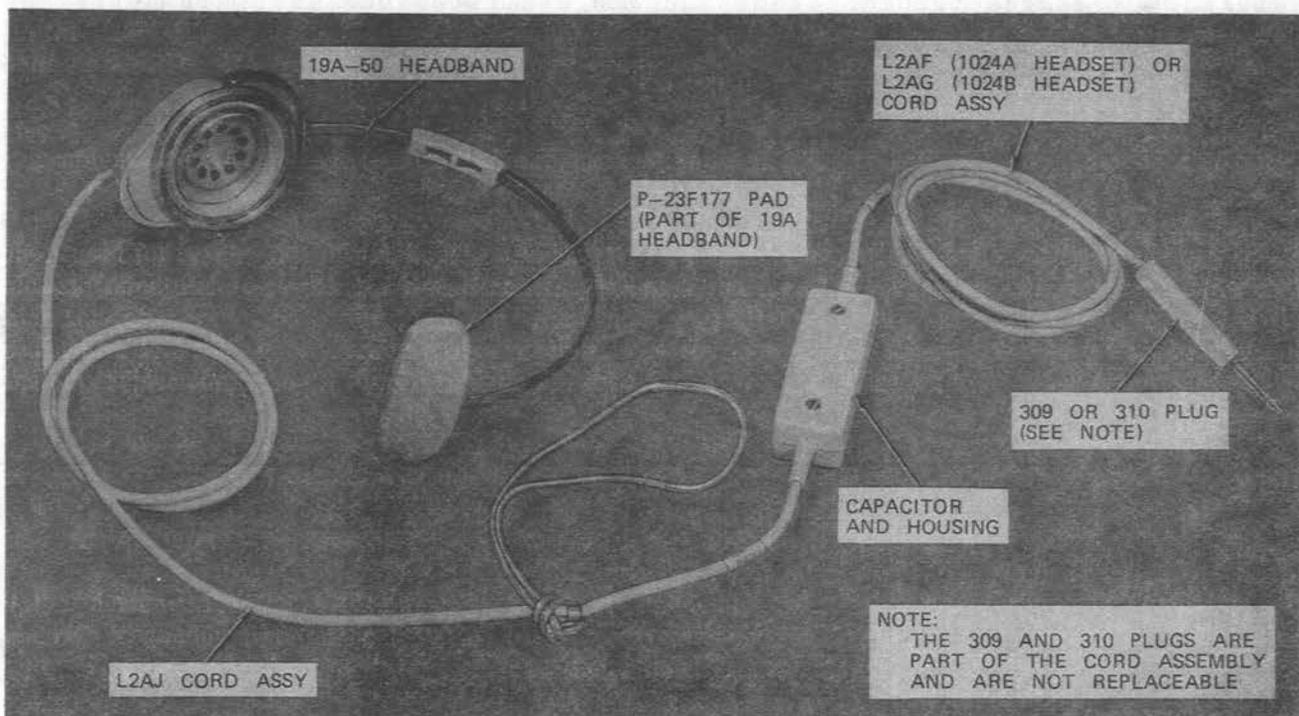

Fig. 3—1024A- And 1024B-Type Headsets
2.05 The 1024A- and 1024B-type headsets (Fig. 3) are designed to permit a peg count analyst to plug into a multiple answering appearance of an incoming dial '0' trunk ahead of answering operator to determine the class of call by listening to the customer request.